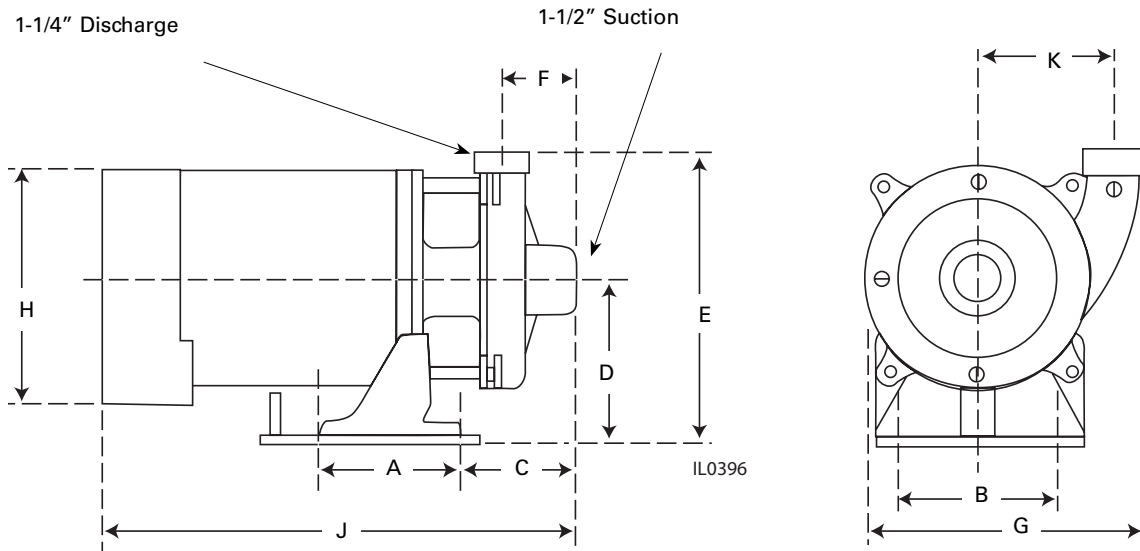

Figure 1 - 300 Series Single Stage Booster Pump
2. The diameter of the suction and discharge pipe should be no smaller than the corresponding tapings of the pump (see Figure 1). If long runs are encountered larger pipe should be used. Smaller pipe will reduce the capacity of the pump.